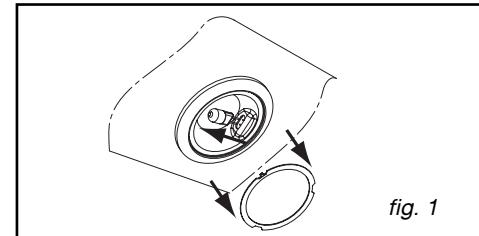

fig. 1
• **Dismantling the filter cartridge (fig. 1)**
- Remove the lighting port (fig. 1).